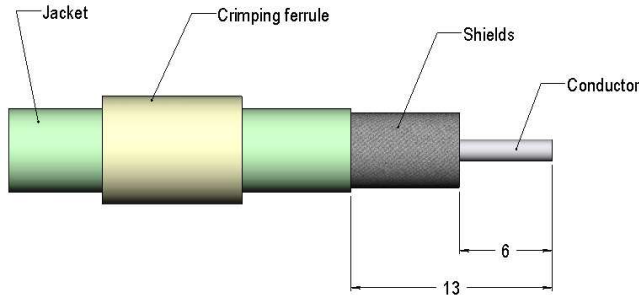

FIG 1
- Strip cable to the dimensions given in figure 1.